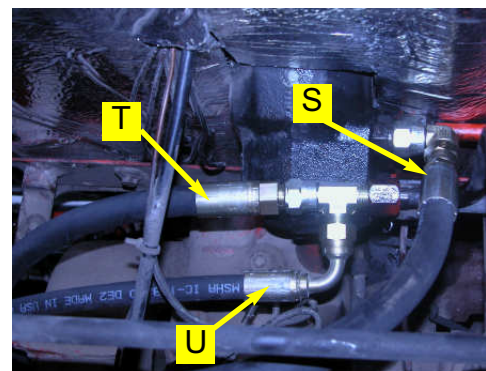

Figure 4b. Hoses installed at orbital and on tank line.
- b. Connect the provided tank hose (**U**) and excess flow hose (**T**) to the run tee installed in step 3. Connect the opposite end of hose (**U**) to the **T** port of the Automated Steering Block. Connect the opposite end of hose (**T**) to the **EF** port of the Automated Steering Block. (Figure 4b.)